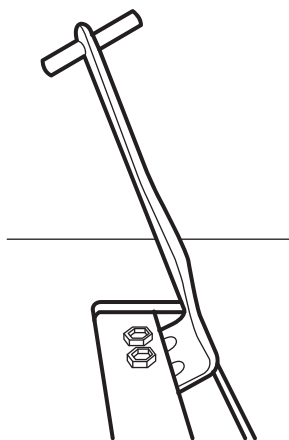
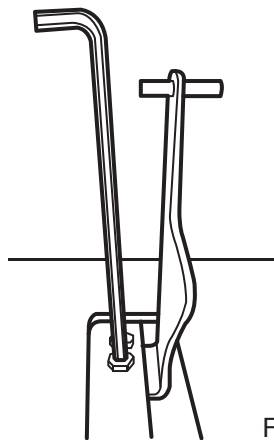

Fig. 4
Fig. 5
Mount the splitting wedge (15) on the clamping screws which have already been premounted on the back end of the cutting disc opening in the machine table (4). To do this, guide the splitting wedge (15) from the side into the clamping screws which have already been loosened (see Fig. 4) and turn the clamping screws by means of the Allen key (12) until they are handtight (Fig. 5). Please ensure that the splitting wedge is correctly installed before the first step (see the guide under Section 11).